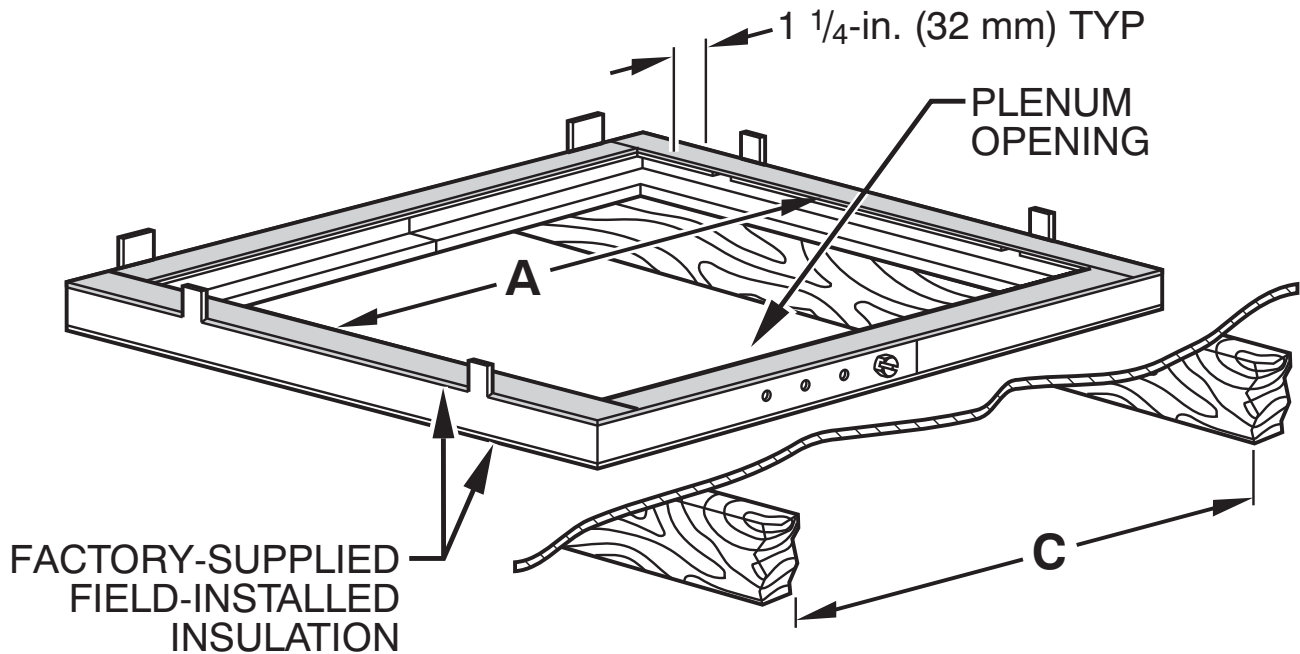

Fig. 3 - Installed Floor Subbase
3. Install factory-supplied strips of insulation on top and bottom sides of adjustable rails. (See Fig. 3)
- e. Apply strips of insulation to adhesive tape. Insulation must be properly installed to ensure an adequate seal and prevent air leakage between floor and base, and base and plenum. (See Fig. 3.)